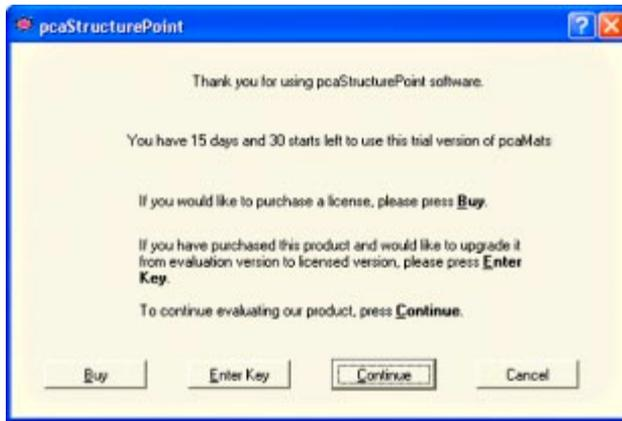
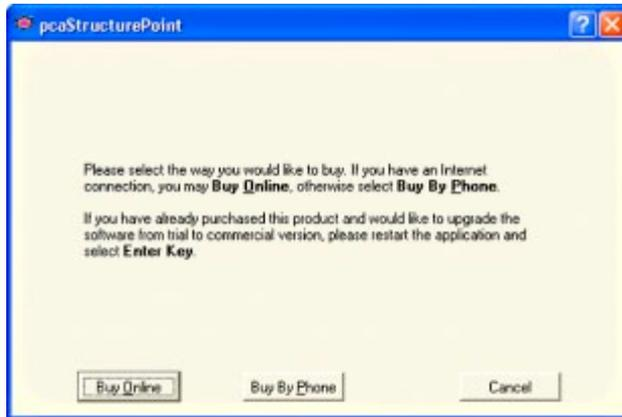
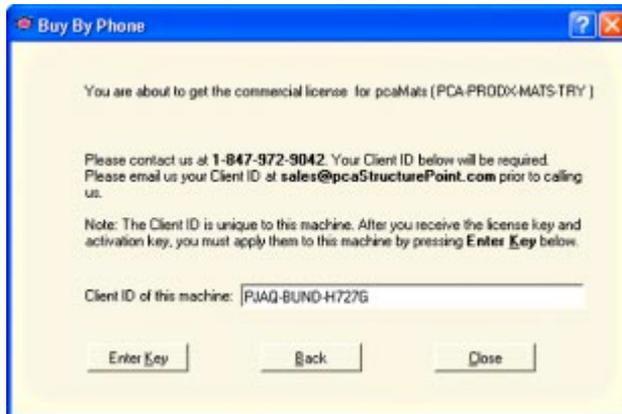
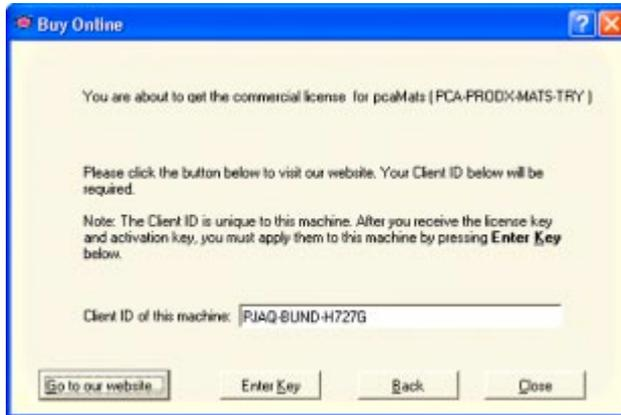

Figure 1-11 — Start-up Dialog Box
Figure 1-13 — Purchase Option Dialog Box
Figure 1-14 — Buy by Phone
Figure 1-15 — Buy Online
1. When starting the application in Evaluation mode. From the start-up dialog box (Figure 1-11) select the BUY button.
(By Online) or by phone (Buy by Phone) (Figure 1-13). Select the preferred order method and proceed to the following screen.
In order to purchase by phone, please select the BUY BY PHONE button on Figure 1-13. This will bring up a dialog box which will display the pcaStructurePoint contact number and client ID of the machine (Figure 1-14).
In order to purchase online, please select the BUY ONLINE button (Figure 1-13). This will bring up a dialog box which will display the client ID code of the machine (Figure 1-15). At this point, please highlight this code and copy it to clipboard (by Ctrl+C). You will need this code later.
After completing the purchase, you should receive License Key and Activation Code by E-mail or by phone. In order to apply them you can either re-start the application, or select ENTER KEY button on any licensing dialog windows (Figure 1-14 or Figure 1-15). If you restart the application, you will see the start-up dialog box (Figure 1-11). From this start-up dialog box, please select the ENTER KEY button.